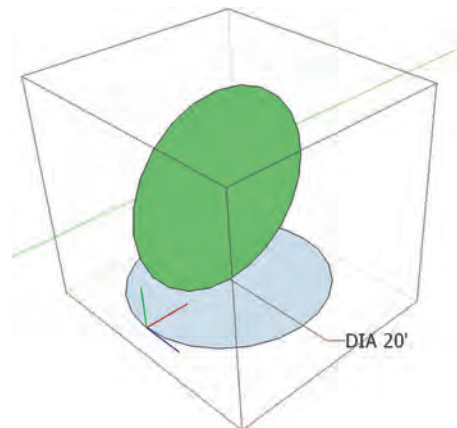

Fig. 8-14: Enter the Circle component instance and draft another horizontal circle at the base of the vertical circle.
6. Enter the component instance of the circle. At the bottommost edge of the circle, draft another 20'-diameter circle. Make sure the circle is horizontal (Fig. 8-14). Learning to align with the Circle tool can be tricky, but have the patience to orient the new circle to the horizontal plane.